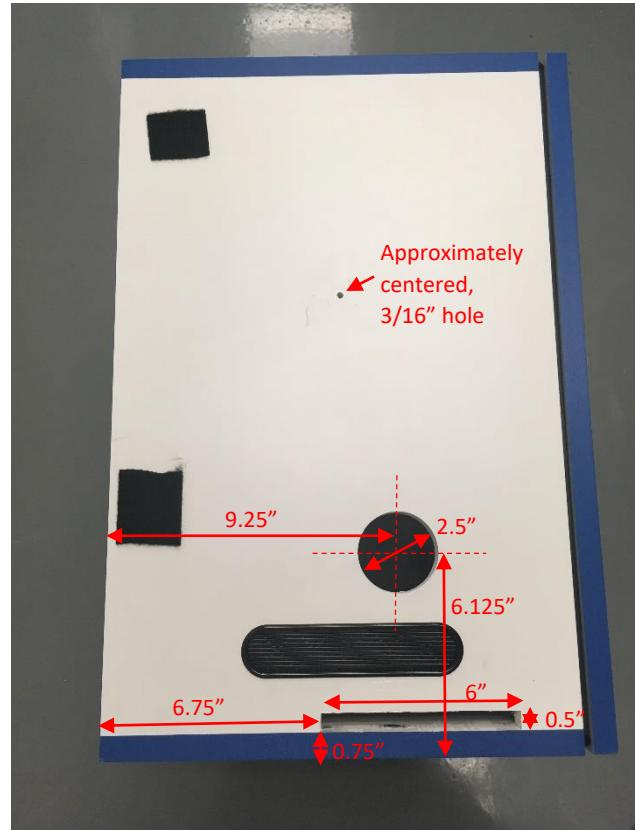

Figure 101 Modifications to the side of the box for the camera, the mounting breadboard, and the foam anchor bolt.
- See Figure 101 for the results of this step.
- See Figure 101 for the results of this step